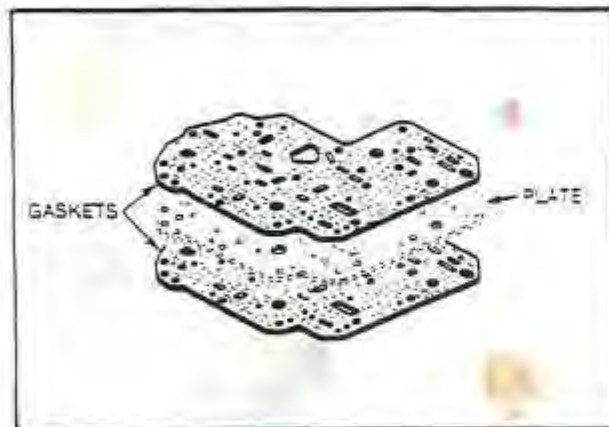

Fig. 19 VALVE BODY GASKETS AND PLATE
1. Clean the surfaces of the valve body, plate and transmission case. Place a new gasket, the plate and another new gasket on the valve body. Insert two (2) mounting bolts in the valve body to align the gaskets and plate. *Fig. 19*